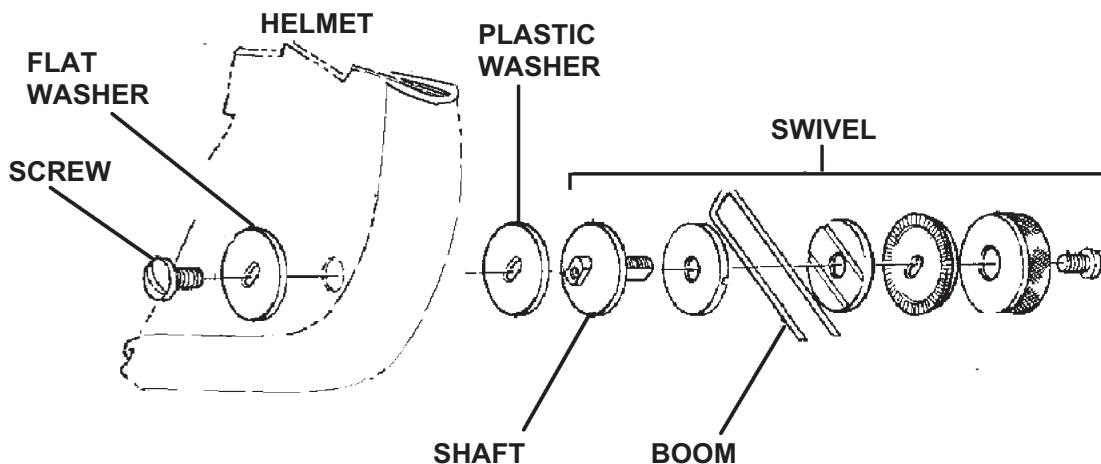

Figure 4-18. Boom and Microphone
2. Referring to Figure 4-18, mount the boom and swivel assembly as follows: